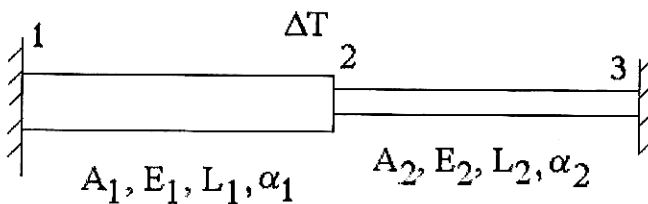

Figure Q1
- a. Two bar elements as shown in Figure Q1 are held between two rigid walls. The system can have only axial displacement. The temperature of the whole system is raised by  $\Delta T$ . Find out the displacement at point 2 taking two finite elements.